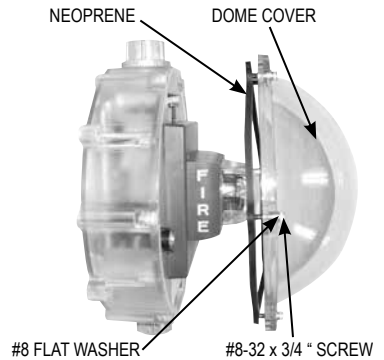

Fig. 6
12. Install cover and new gasket with six #8-32 x 5/8" socket cap screws and washers as shown in Fig. 6.